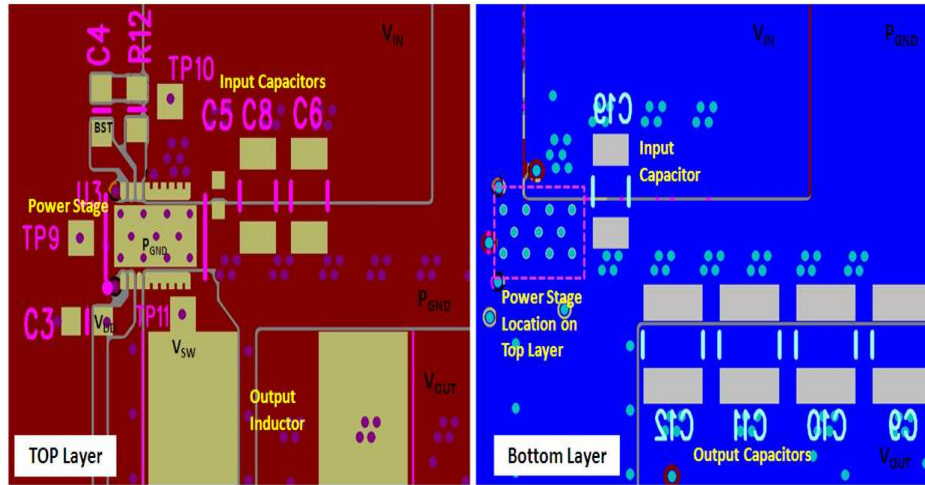

Figure 16. Recommended PCB Layout (Top Down View)
- The placement of the input capacitors relative to V_{IN} and P_{GND} pins of CSD97374Q4M device should have the highest priority during the component placement routine. It is critical to minimize these node lengths. As such, ceramic input capacitors need to be placed as close as possible to the V_{IN} and P_{GND} pins (see Figure 16). The example in Figure 16 uses 1 \times 1-nF 0402 25-V and 3 \times 10- μ F 1206 25-V ceramic capacitors (TDK Part # C3216X5R1C106KT or equivalent). Notice there are ceramic capacitors on both sides of the board with an appropriate amount of vias interconnecting both layers. In terms of priority of placement next to the power stage C5, C8 and C6, C19 should follow in order.
- Use the smallest drill size allowed in your design. The example in Figure 16 uses vias with a 10-mil drill hole and a 16-mil capture pad.